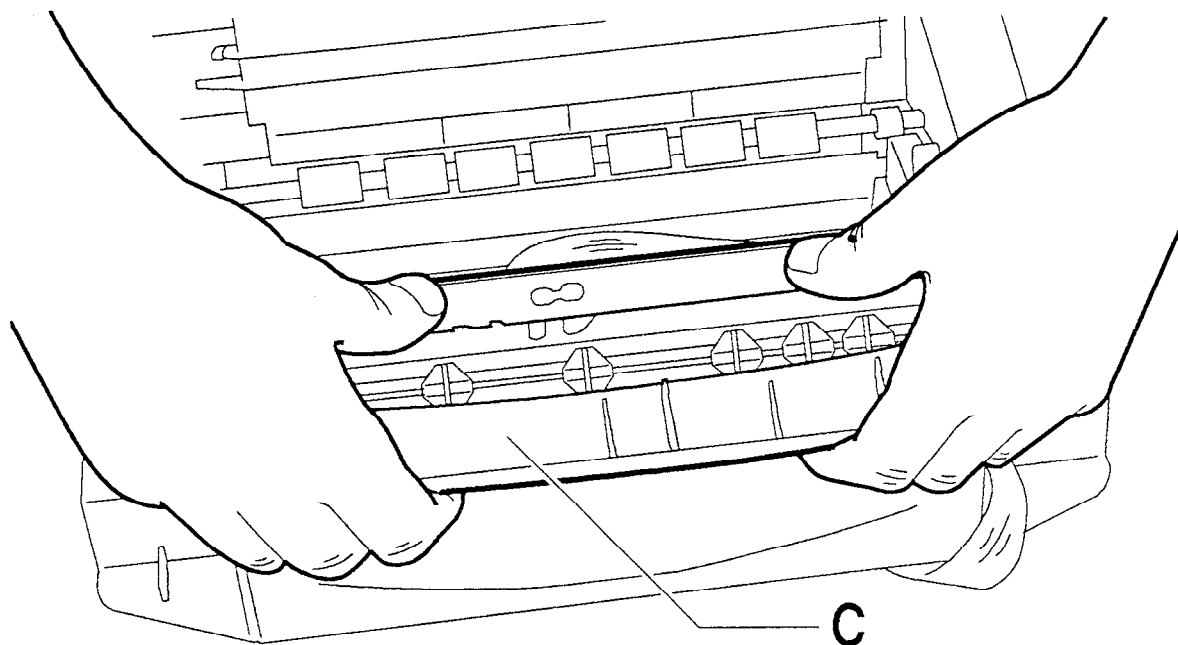

Fig. 7-11
- 2) Release the outlet **C** flexing it upward with both hands, then rotating it forward (Fig. 7-11):